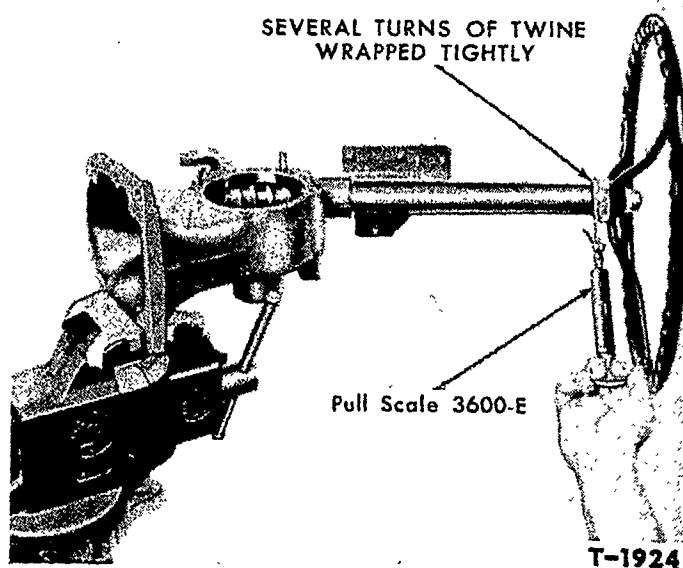
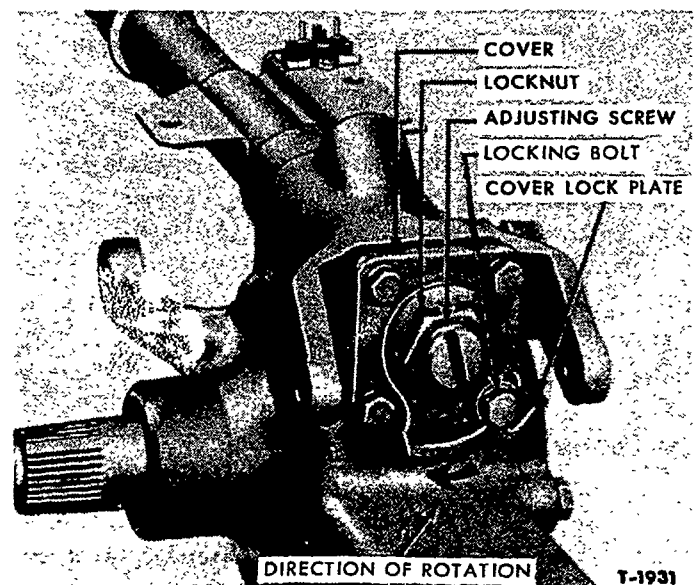

Figure 19—Checking the Worm Bearing Preload
Figure 23—End Cover Lock Plate and Locking Bolt
- a. Adjusting screw lock nut, Figure 23.
6. Install the steering column bearing, seat, spring and felt. Position the steering wheel and emblem on the shaft and secure with the steering wheel nut. Use a piece of twine and Pull Scale 3600-E to check the preload on the worm bearings by rotating the steering wheel, as shown in Figure 19.
Preload should be $4\frac{1}{2}$ to 9 inch lbs. torque with the steering shaft positioned three turns to right or left of straight-ahead position. This is equivalent to 5 to 10 lbs. pull when checked as shown in Figure 19. Adjust the preload by turning the adjusting screw, Figure 23, in or out as necessary. Tighten the lock nut and recheck the preload to be sure it has not changed.
- a. Loosen the bolt so that the lash adjusting lock plate is free to rotate, Figure 23.